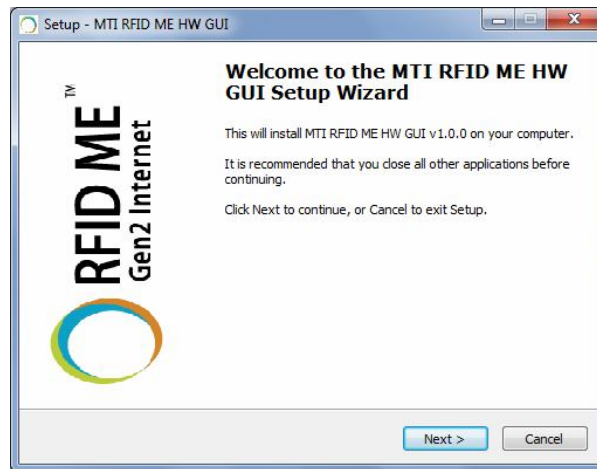

Figure 1
- 2.1.1. Double-click “MTI RFID ME™ HW GUI.exe” in the installation disk, then click “Next” to continue the installation, or click “Cancel” to exit the setup as shown in Figure 1.